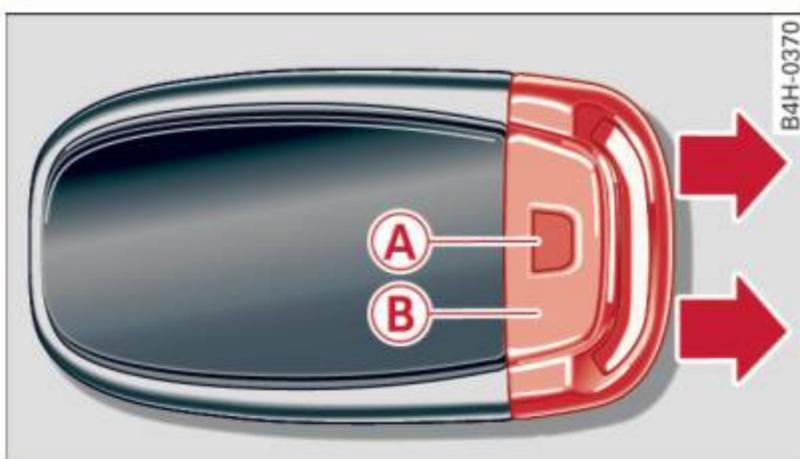

Fig. 20 Remote master key: removing the mechanical key
- ▶ Press the release button **(A)** ⇒ *fig. 20*.